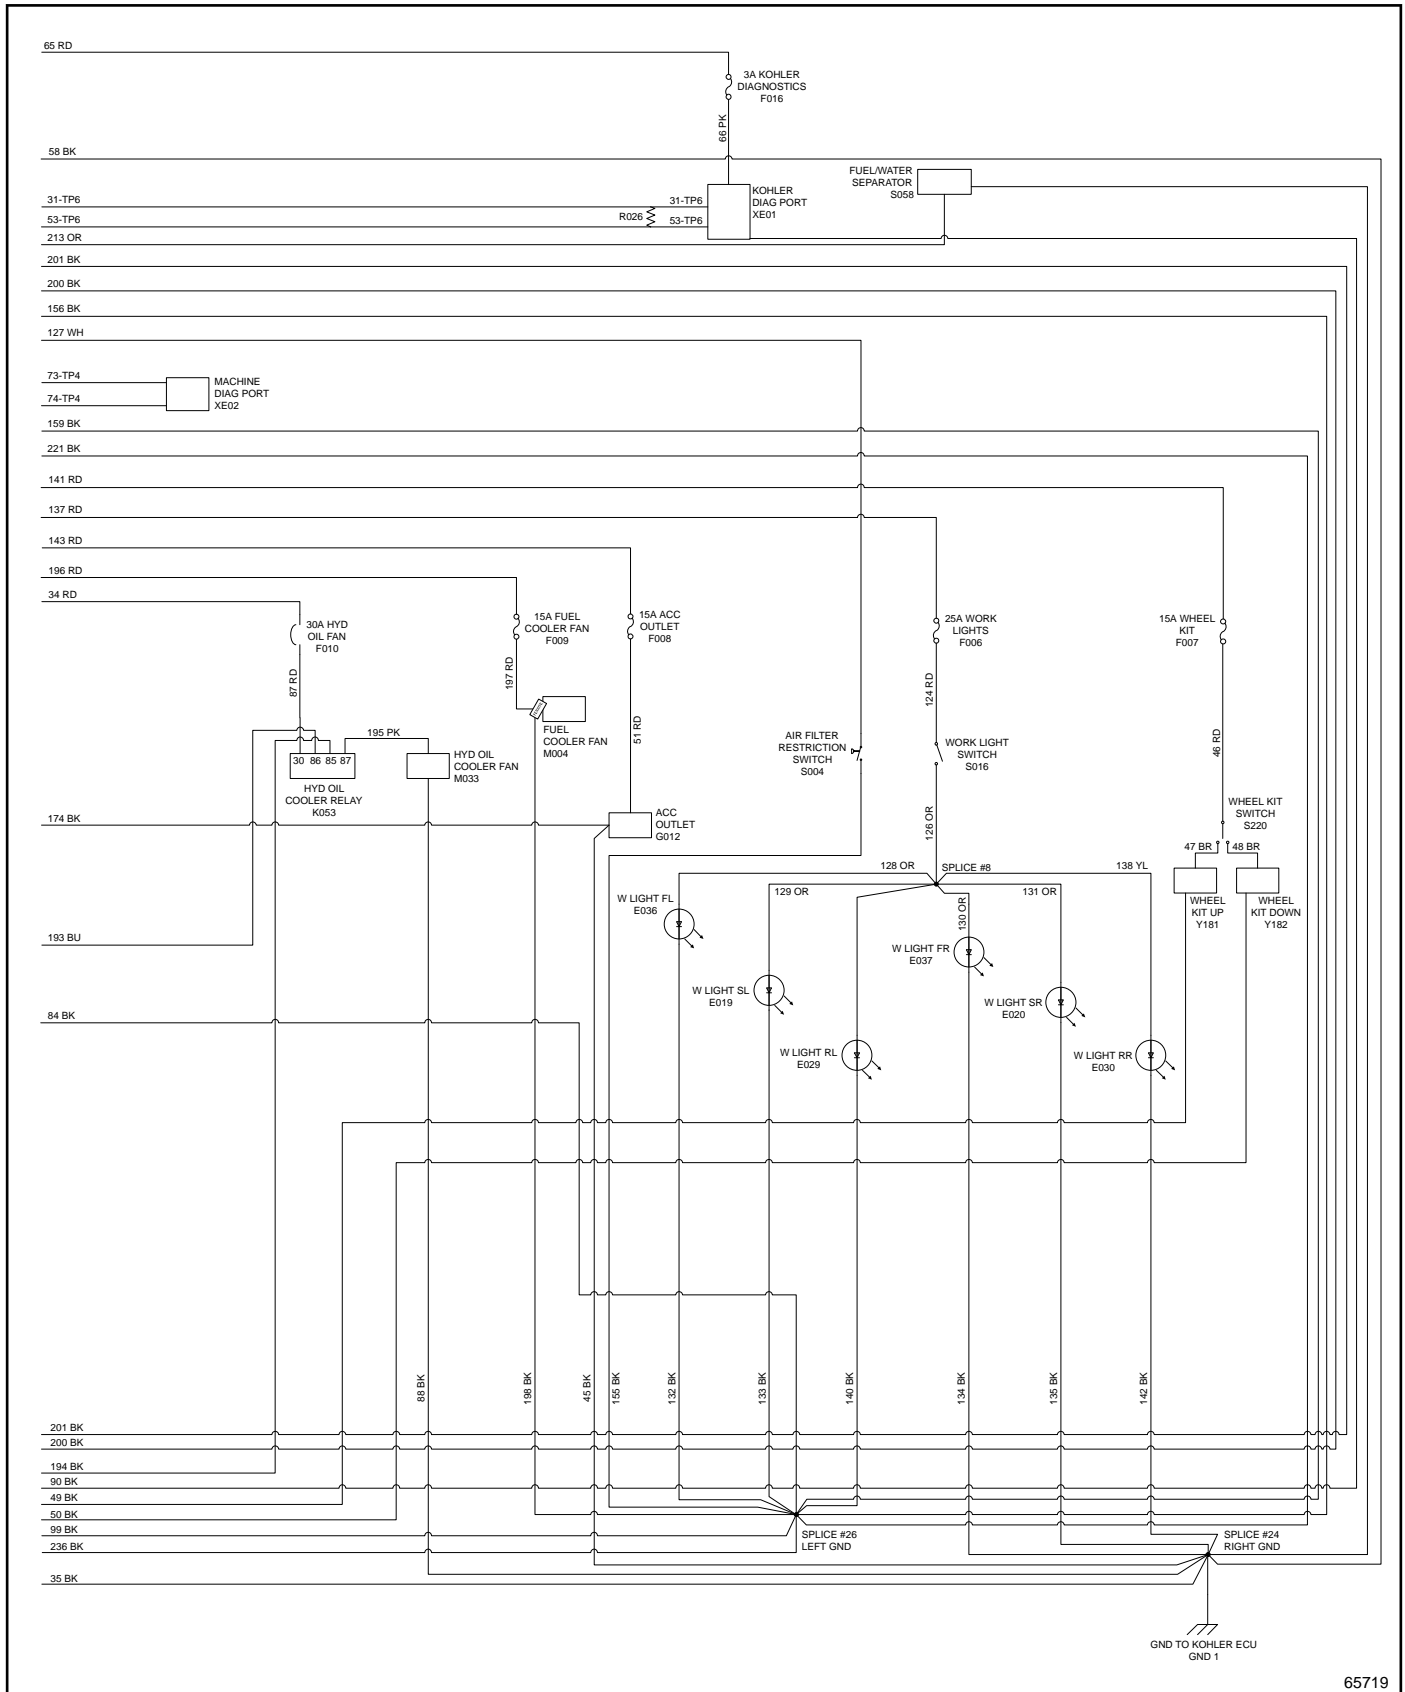

Figure 3-7: Electrical Schematic
- F016—Kohler Diagnostics Fuse (3 AMP) (See "Figure 3-7")
- G012—Accessory Outlet (See "Figure 3-7" on page 3-17)
- K053—Hydraulic Oil Cooler Relay (See "Figure 3-7" on page 3-17)
- M004—Fuel Cooler Fan (See "Figure 3-7" on page 3-17)
- M033—Hydraulic Oil Cooler Fan (See "Figure 3-7" on page 3-17)
- S004—Air Filter Restriction Switch (See "Figure 3-7" on page 3-17)
- S016—Work Light Switch (See "Figure 3-7" on page 3-17)
- S058—Fuel/Water Separator (15 AMP) (See "Figure 3-7" on page 3-17)
- S220—Wheel Kit Switch (See "Figure 3-7" on page 3-17)
- XE01—Kohler Diag Port (See "Figure 3-7" on page 3-17)
- XE02—Machine Diag Port (See "Figure 3-7" on page 3-17)
- Y181—Wheel Kit Up Valve (See "Figure 3-7" on page 3-17)
- Y182—Wheel Kit Down Valve (See "Figure 3-7" on page 3-17)